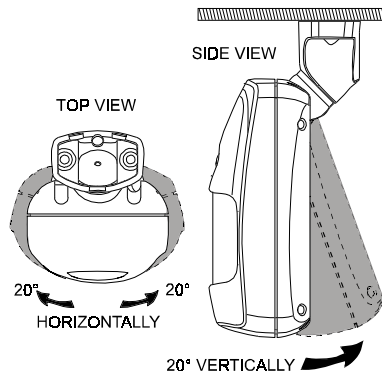

Figure 10. Tilt/Swivel Limits
- Tilt down or swivel the detector to face the desired direction. Fig. 10 shows the various possibilities of tilting and swiveling.